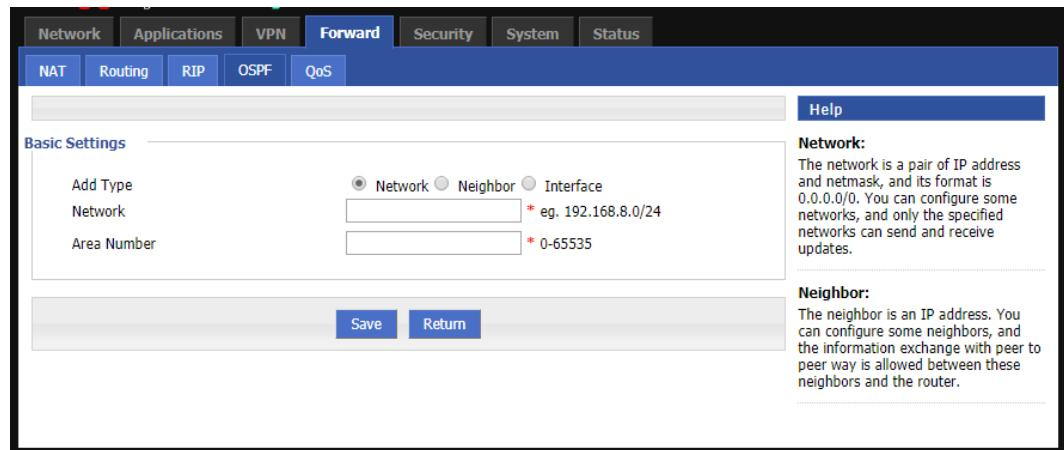

Figure 5-46 Ospf rule configuration page
Step 3 Click Add to create a new OSPF rule. The configuration interface is shown in Figure 5-46.